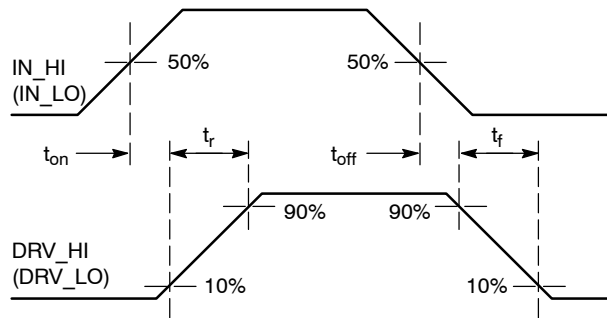
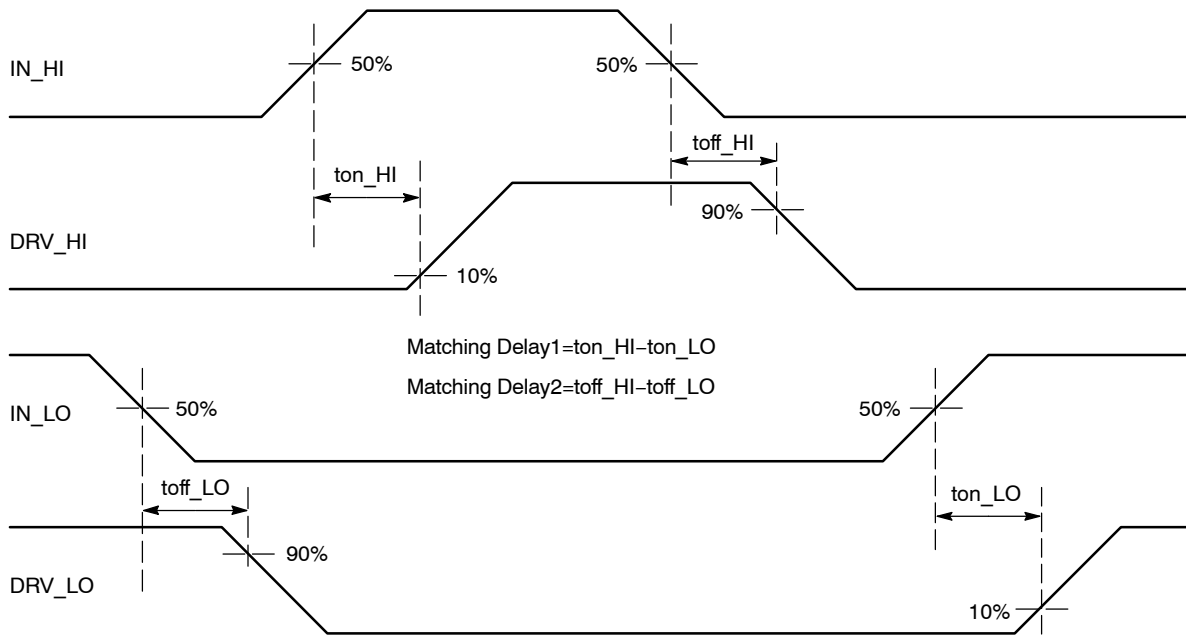

Figure 5. Propagation Delay and Rise / Fall Time Definition
Figure 6. Matching Propagation Delay
6. Timing diagram definition see Figure 5 and Figure 6.